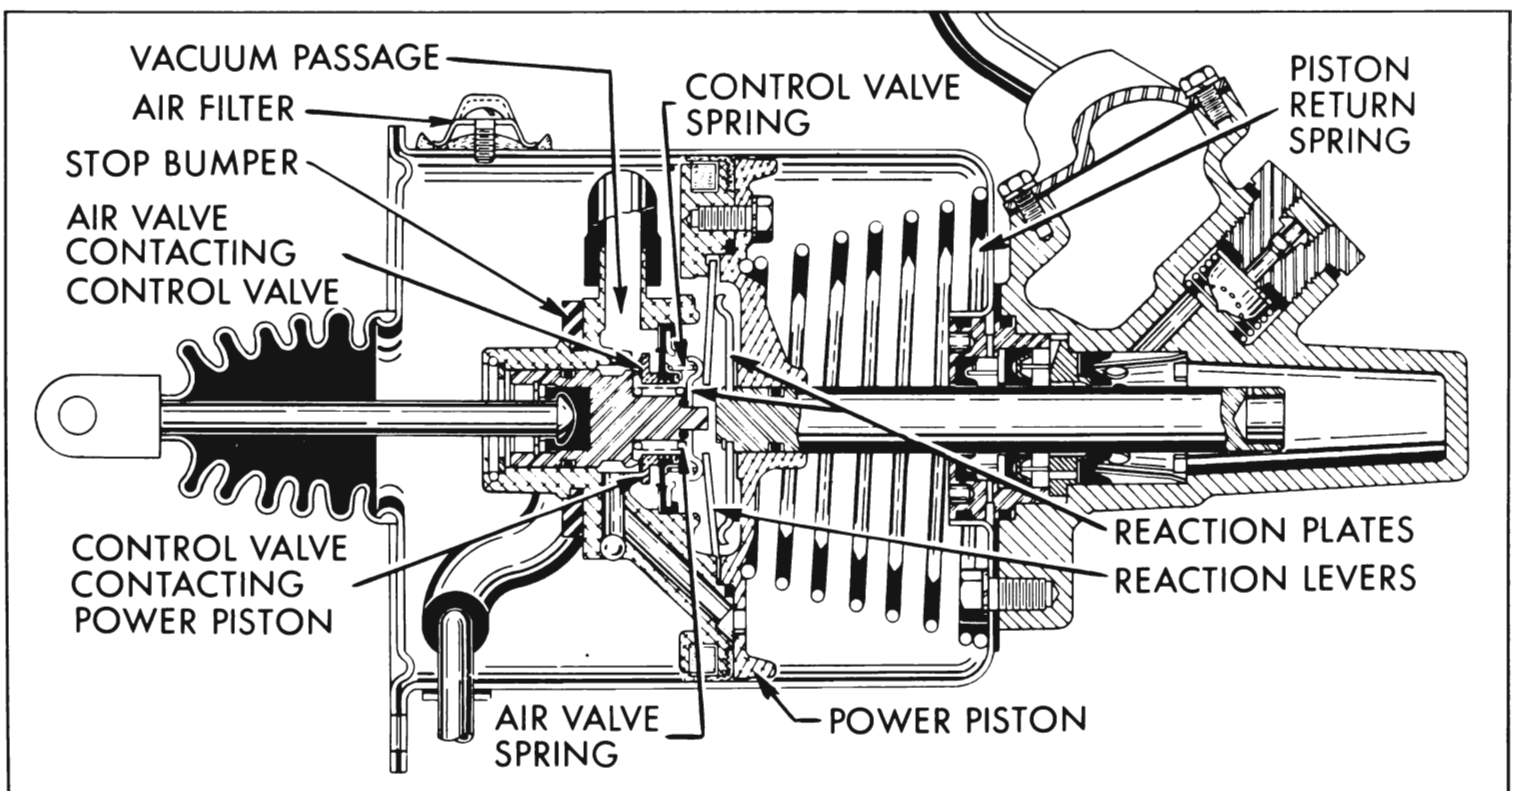

Figure 9-15—Holding
(4) *Holding.* When the desired brake apply pressure is reached and brake pedal is held poised, the power piston continues forward momentarily until the annular seat contacts the floating control valve. See figure 9-15. At this point, the air valve is also in contact with the control valve so that the passages to the vacuum chamber are closed to atmospheric pressure as well as vacuum; therefore, the power piston is held stationary or poised, ready to move in either direction as dictated by brake pedal movement.